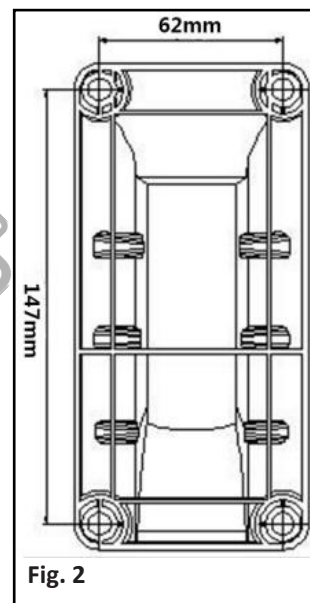

Fig. 2
3. Take the mounting bracket as a template to mark the position for screws and drill four holes on the wall (Fig.2).